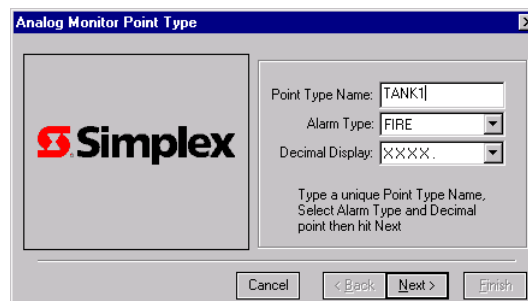

Figure 13-2. Initial AMON Point Type Dialog
1. To start this wizard, right click in the blank space just below the Point. When the menu appears, click on **Add**. A dialog similar to the one shown in Figure 13-2 appears.